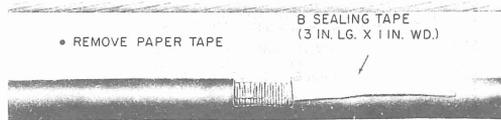

Fig. 42—B Sealing Tape in Place
- (c) Cut a 3-inch long by 1-inch wide strip of B sealing tape. Lay this strip on the top of the cable sheath on the side of the opening where the bond will be made to the strand (Fig. 42).